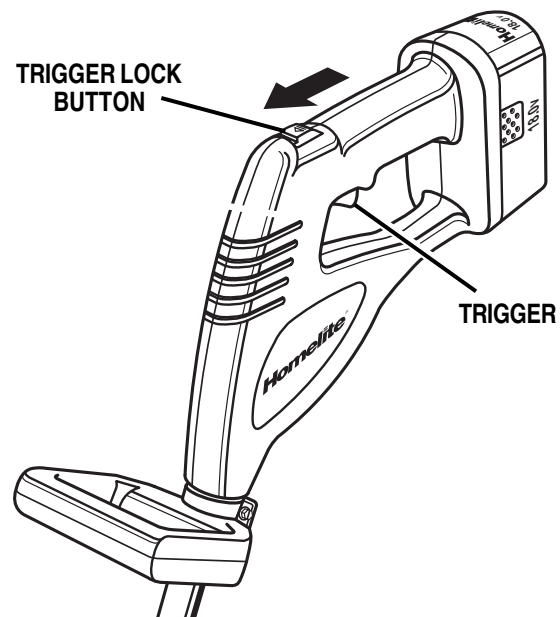

Fig. 8
- Press and hold the trigger lock button. *See Figure 8.* This makes the trigger operational.